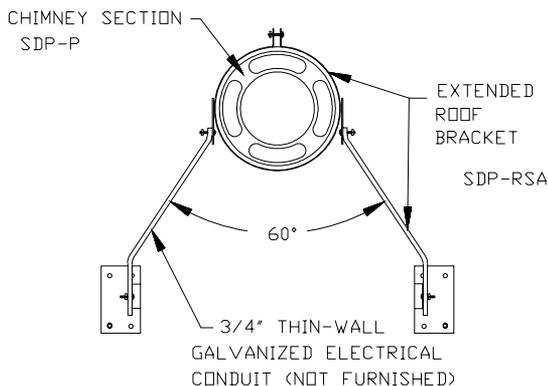

Fig 18
2. Install Roof Brackets: Measure from the **Pipe Band** to the points where the conduit will meet the roof, and form approximately a 60° angle with the chimney, and with each other. (Figures 18 and 19). Cut 2 pieces of 3/4 inch thin wall galvanized steel electrical